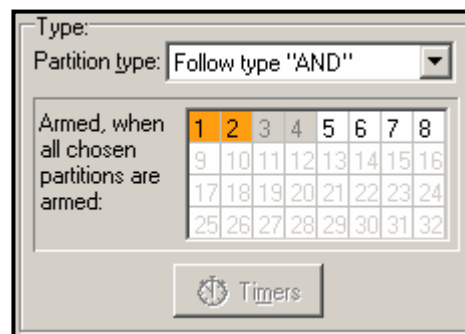

Fig. 3. Definition of *Follow type "AND"* partition.
- **Follow type "AND"** – the partition controlled by status of other partitions. This partition is not armed directly by the user, but automatically – when all partitions indicated to the control panel become armed. The list of partitions is defined by the service when creating the dependent partition. The arming time is recorded in the event log, with indication of the user who armed the last partition from the list. When any partition from the list is disarmed, the dependent partition will be disarmed as well. Figure 3 shows the selection field of partitions that control partition 3 (partitions 1 and 2 are selected, other colors of background for partitions 3 and 4 show that partitions 3 and 4 cannot be selected